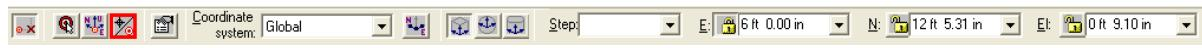

Figure 12. 16: PinPoint Ribbon
4. Select the buttweld end port of the flange, as shown in Figure 12. 17, to specify the origin for moving the pipe parts.